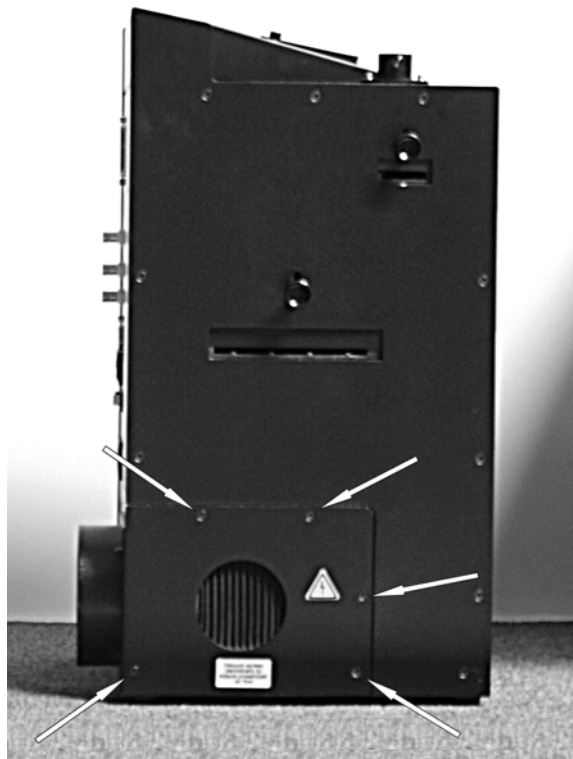

Figure 5-2. Lamp cover panel on left side of the Lambda DG-4-series cabinet.
1. Remove the five screws at the lower left corner of the left side panel (indicated by the arrows in Figure 5-2) and remove the lamp access door. This will expose a black cover panel with four knurled screws.